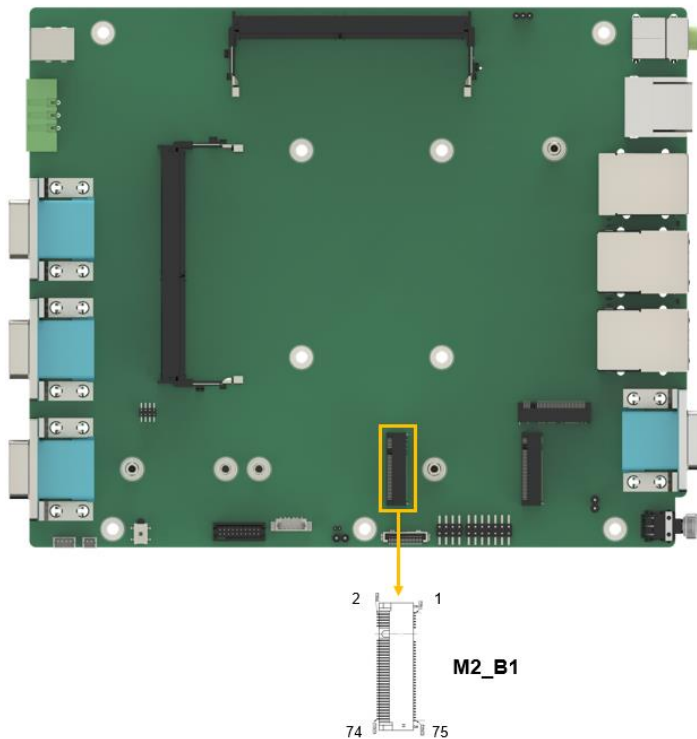

Figure 4-20: M.2 B-key Slot Location
- CN Location:** See Figure 4-20